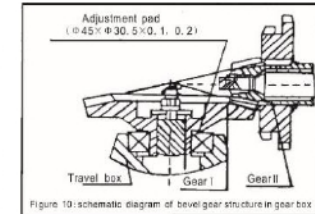

Figure 10: schematic diagram of bevel gear structure in gear box
1. Clearance adjustment of mesh of angel gear in gear-box ( See Figure 10)